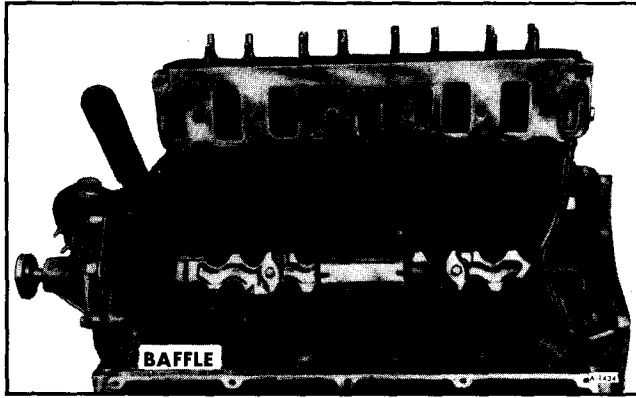

Figure 27—Baffle Installation
2. Install baffle as shown in Figure 27. Install manifold gaskets and manifold. Refer to "Intake Manifold" earlier in this section.